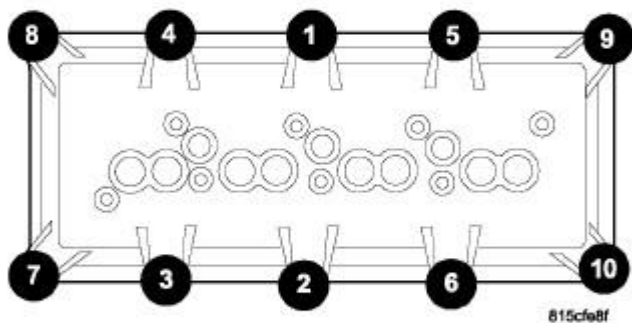

Fig. 104: 5.7L/6.1L COVER TORQUE SEQUENCE
6. Using the sequence shown in **Fig. 104**, install the cylinder head cover. See **Engine/Cylinder Head/COVER(S), Cylinder Head - Installation**.